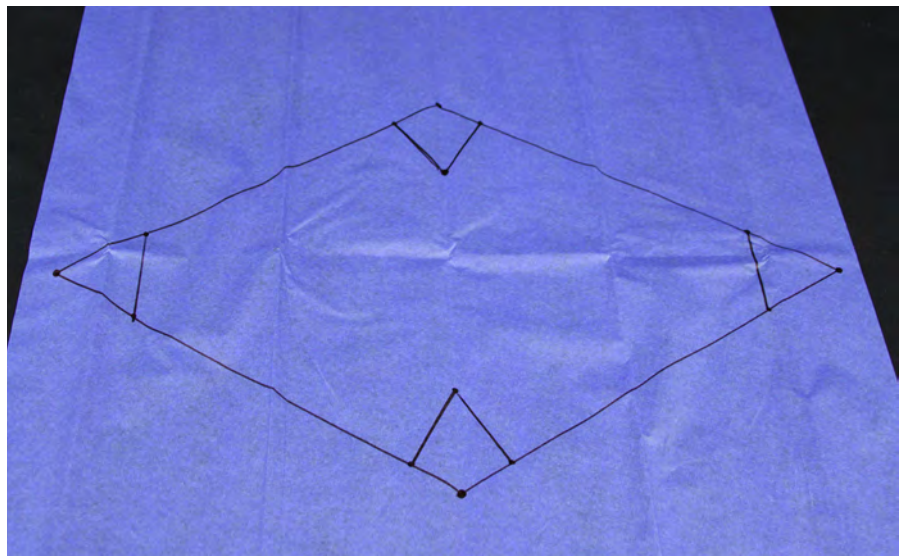

Fig. 11 Tissue paper template
13. Your completed tissue paper tetrahedron template should look like fig . 11 below: